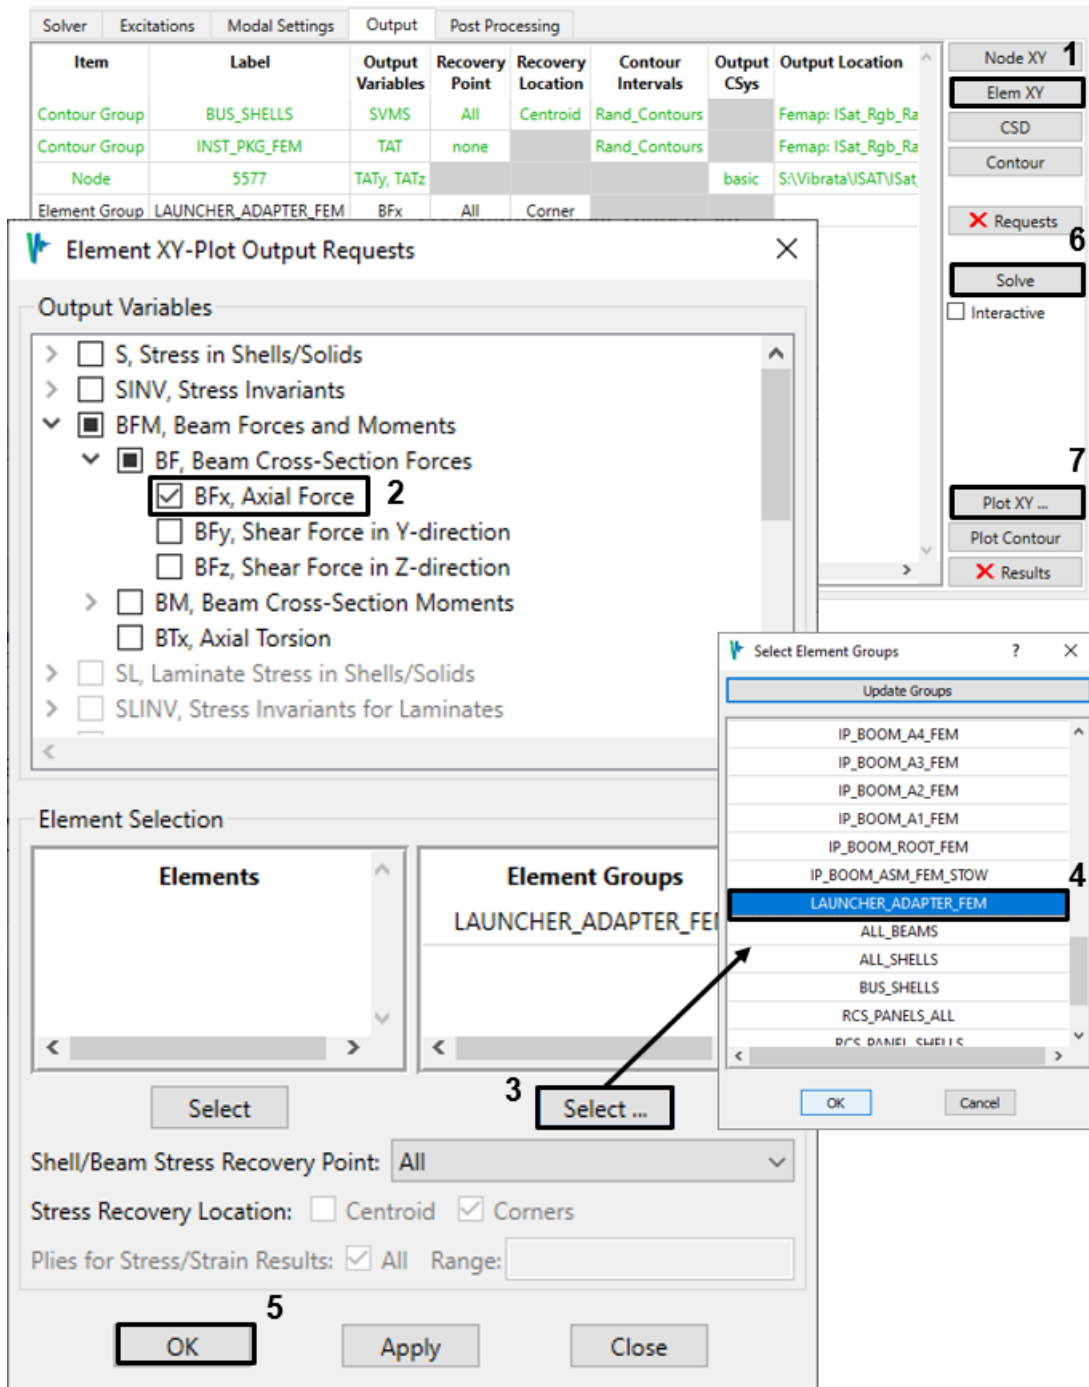
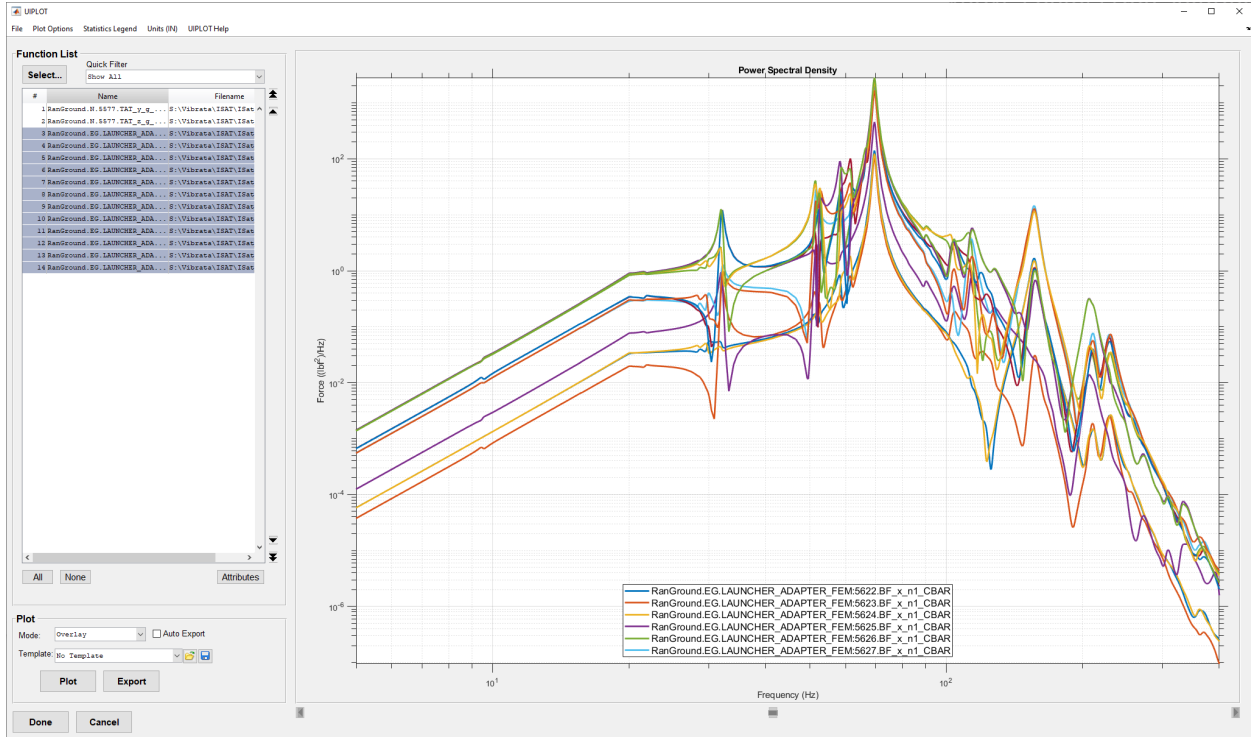

Figure 4-51. Request axial forces in the launcher adapter legs.
Figure 4-52. Axial forces in the launcher adapter legs, rigid base.
- It is also important that we not exceed allowable loads in the launcher adapter legs. Request axial force responses for the elements in group "LAUNCHER\_ADAPTER\_FEM" (Figure 4-51). Solve and plot (Figure 4-52). The RMS values, along with other statistics about the functions, can be displayed using the *UIPLOT* dialog's *Statistics Legend* menu. Note that element 5632 has the largest RMS value.